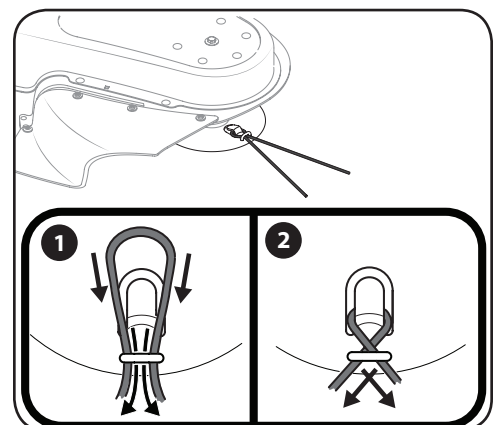

Figure 4-3
4. Cross the line ends and pull each tightly to secure the trimmer line in place. See Figure 4-3.